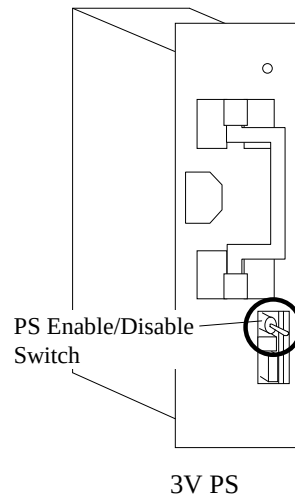

Fig. 3.10-1 Switch
- a. Confirm the PS Enable/Disable Switch is turned to (DOWN) **Disable**. Refer to Fig. 3.10-1.